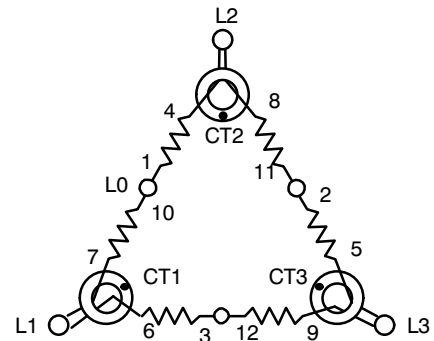

**Figure 2. Installation**
4. Route generator leads through current transformers for connection to bus bars as shown in Figure 3, according to system voltage specified in plans. Connect generator leads to bus bars as shown in Figures 2 and 3.
5. Mount the lug insulator pad (275598) to the left–side junction box side cover, as shown in Figure 2. Reinstall junction box side covers.